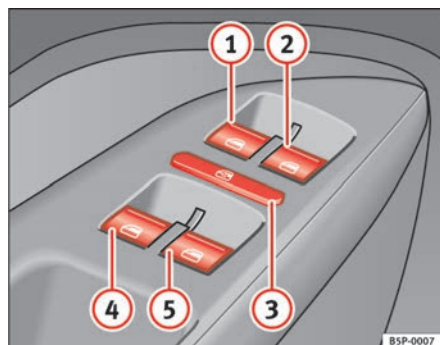

Fig. 67 Detail of driver door: controls for the front and rear windows
The buttons ⇒ page 104, fig. 67 ① and ② have two levels for opening the window and two for closing it. This makes it easier to open and close windows to the desired position.